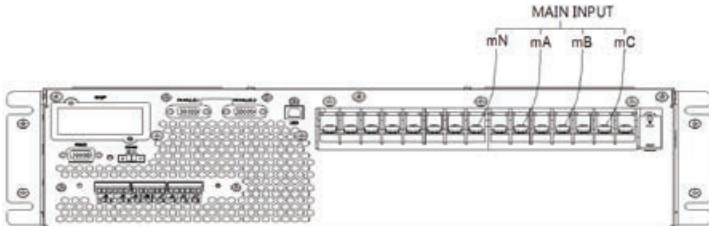

Fig. 3-13 Main line input connection diagram
- a. Remove all copper bars, connect input cable only(no bypass/output/battery). As shown in Figure 3-13: